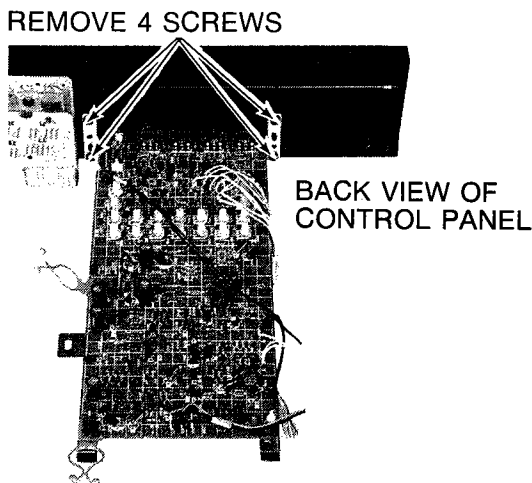

Fig. 14a — Convergence Board
3. Remove four (4) screws from control panel holding convergence board to control block (Panel), Fig. 14a.